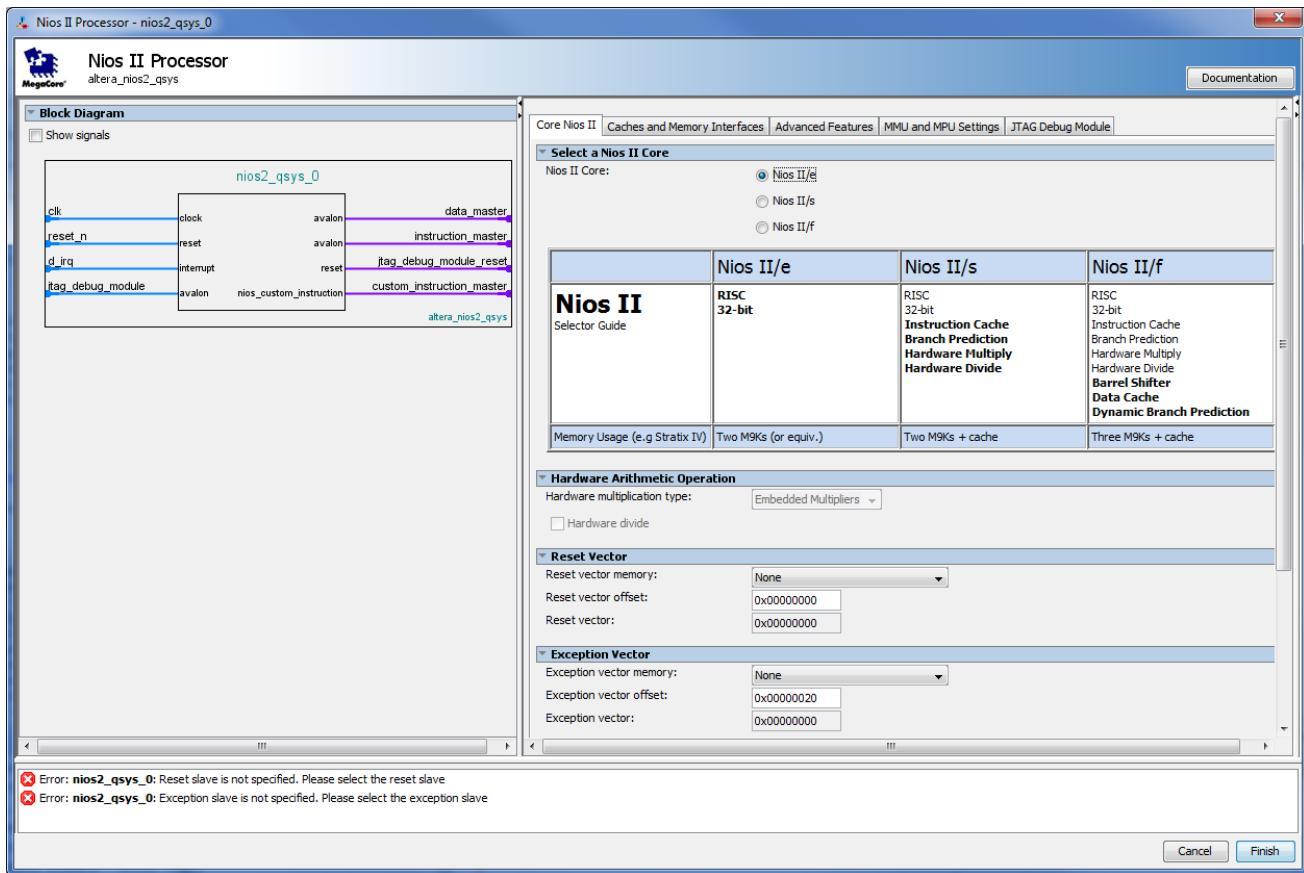

Figure 6. Create a Nios II processor.
- On the left side of the Qsys window expand Embedded Processors, select Nios II Processor and click Add, which leads to the window in Figure 6.
- Observe that the error messages dealing with memory assignments shown in Figure 6 will now disappear